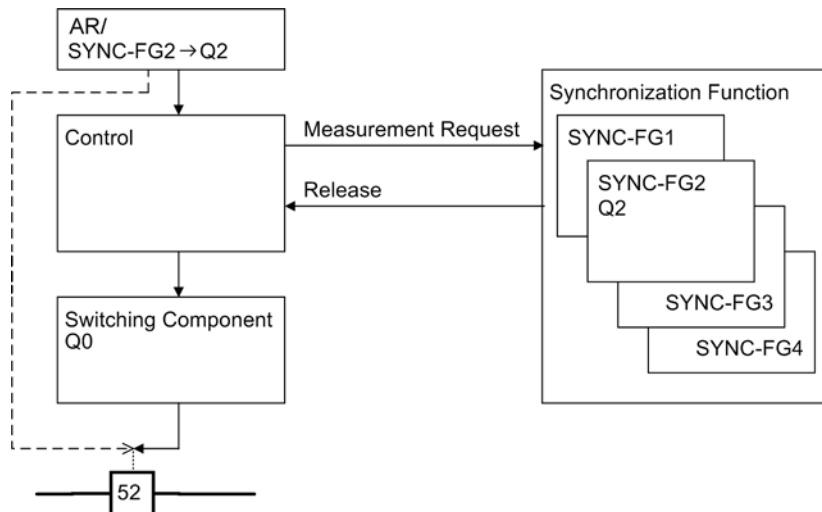

Figure 2-103 Connection of the automatic reclosing function to the synchrocheck
The automatic reclosing (AR) function can also interact with the synchronizing function. They are linked via the device control. The selection is made via parameter setting of the automatic reclosing function. The AR parameters (7138 **Internal SYNC**) determine which SYNC function group (SYNC FG) is used. The applicable switch is defined in the selected function group. The switchgear component indicated in the AR parameters (7137 **Cmd.via control**) and the selected SYNC function group should be identical. If their settings differ, the SYNC function group setting will overwrite that of the AR function. If no SYNC function group is entered in the AR parameter, the close command of the auto reclose function is carried out in unsynchronized form via the switchgear component indicated in the AR parameters. Equally, the close command „79 Close“ (message 2851) allows only unsynchronized switching. If e.g. circuit breaker Q0 is configured as component to be switched synchronized, a CLOSE command of the AR function will address this breaker and assign it a CLOSE command which will be processed by the control. As this breaker requires synchronization, the control launches the synchronizing function and awaits release. If the configured conditions are fulfilled, the release is granted and the control issues the CLOSE command (see Figure 2-103).